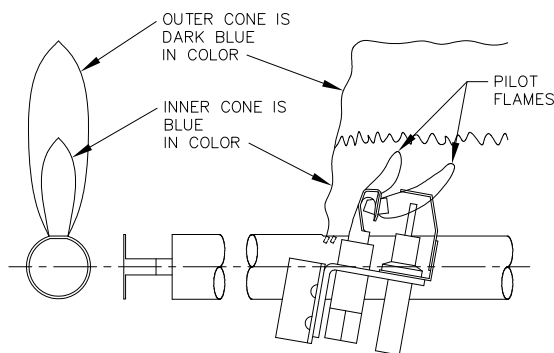

Figure 10.1: Pilot and Main Burner Flame
3. Check the pilot and main burner flame. See Figure 10.1. The pilot should provide a steady flame enveloping 3/8" to 1/2" (10 mm to 13 mm) of the flame sensor. If required, adjust the pilot as stated in the gas valve manufacturer's instructions. The main burner flame inner cone should be approximately 1-1/2" (40 mm) high and should have a very sharp, blue color characteristic.